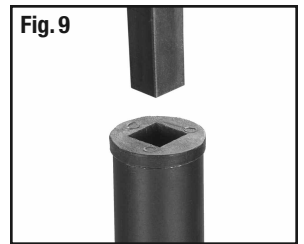

Fig. 9
4. Insert the rod of the top tree section into the green plastic opening of the middle tree section. This is the "pole cap" which keeps tree top section securely in place (Figure 9).